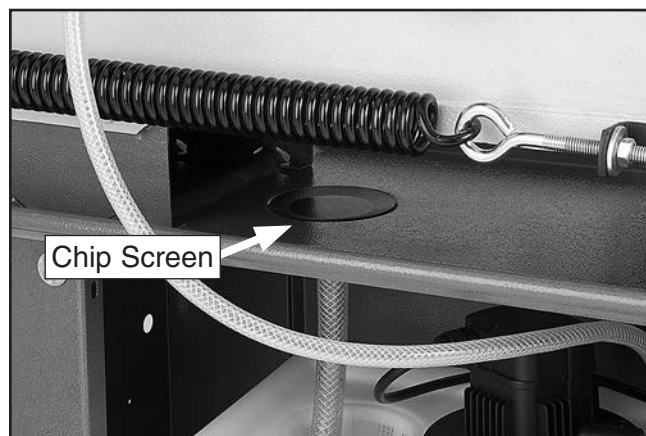

Figure 13. Chip screen installed.
1. Place chip screen into opening shown in **Figure 13**.